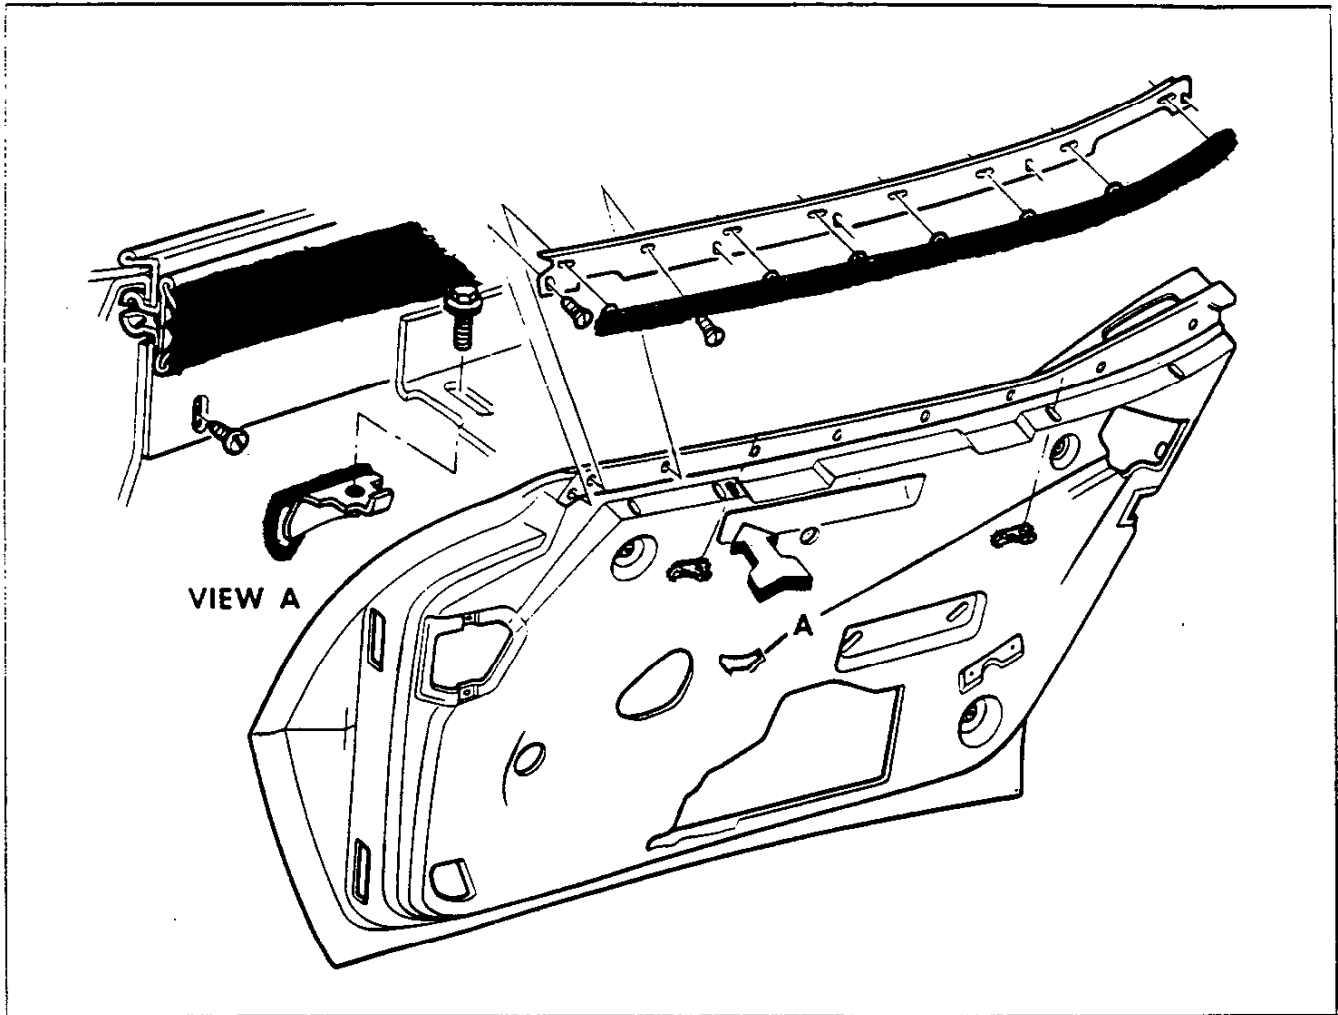

Fig. 27—Window Glass Seals and Molding
**WINDOW OUTER SEAL ASSEMBLY (Fig. 27)**
3. Remove two (2) screws one located at each end of seal.
4. Carefully pry out of six (6) retaining clips.
**WINDOW ANTI-RATTLE (Fig. 27)**